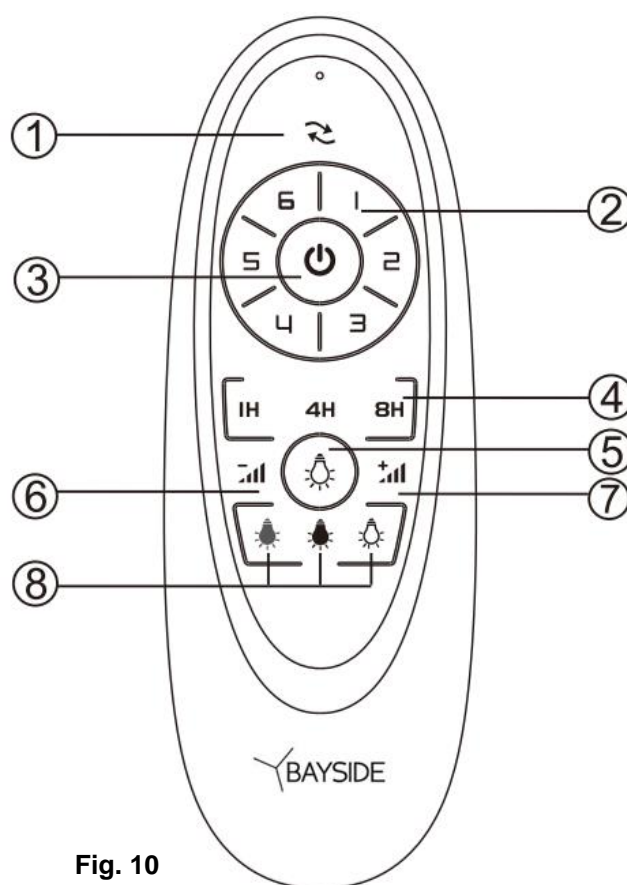

Fig. 10
- Slide the canopy up to the mounting bracket and align the key holes on the canopy with the screws on the mounting bracket. Turn the canopy until it locks into place with the narrow section of the key holes and secure it by tightening the two screws. Avoid damaging the electrical wiring prepared previously. (Fig.10)
3. Follow the guide below to operate the fan and learn the functions. (Fig.10)